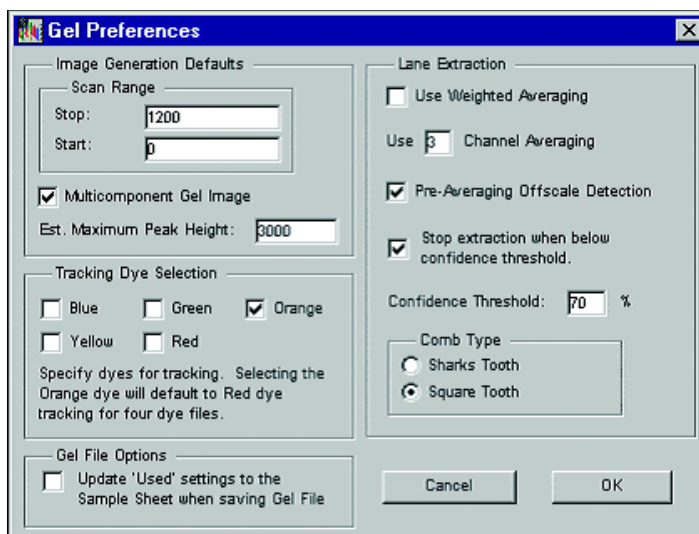

Figure 6-1 Gel Preferences dialog box
3. Fill in the dialog box with the settings shown in Figure 6-1.